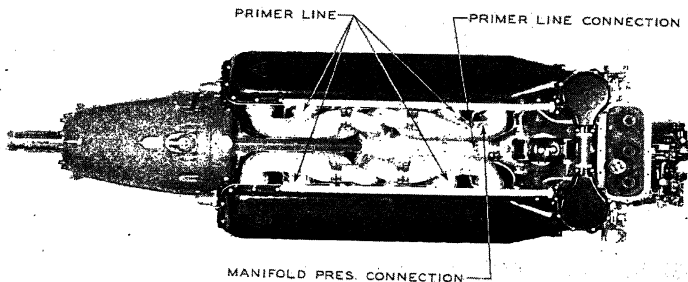

Fig. 8.—This shows the compactness of the intake manifold system.
**Intake Manifold and Cooling System.**—The compactness of the Allison design can be noted in Figs. 8 and 9; the first shows the intake manifold system and the second the cooling system. These illustrate the various connections in both systems and will prove of value in understanding the details.